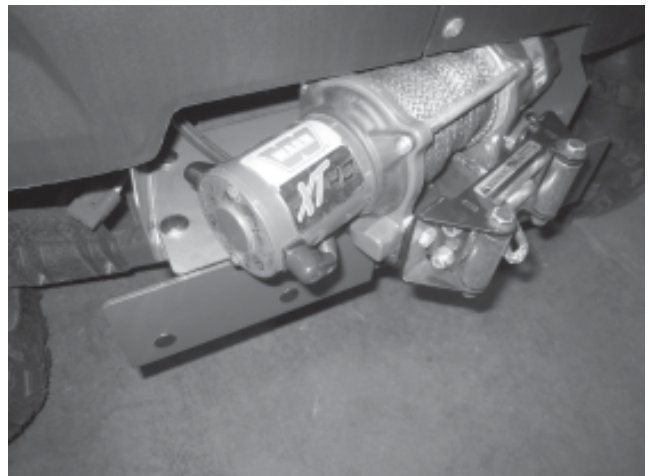

Figure 3
3. Remove the bottom tie bolt from the winch and store away for winch service. Place the winch and roller fair lead plate on mounting plate, Fig 3.